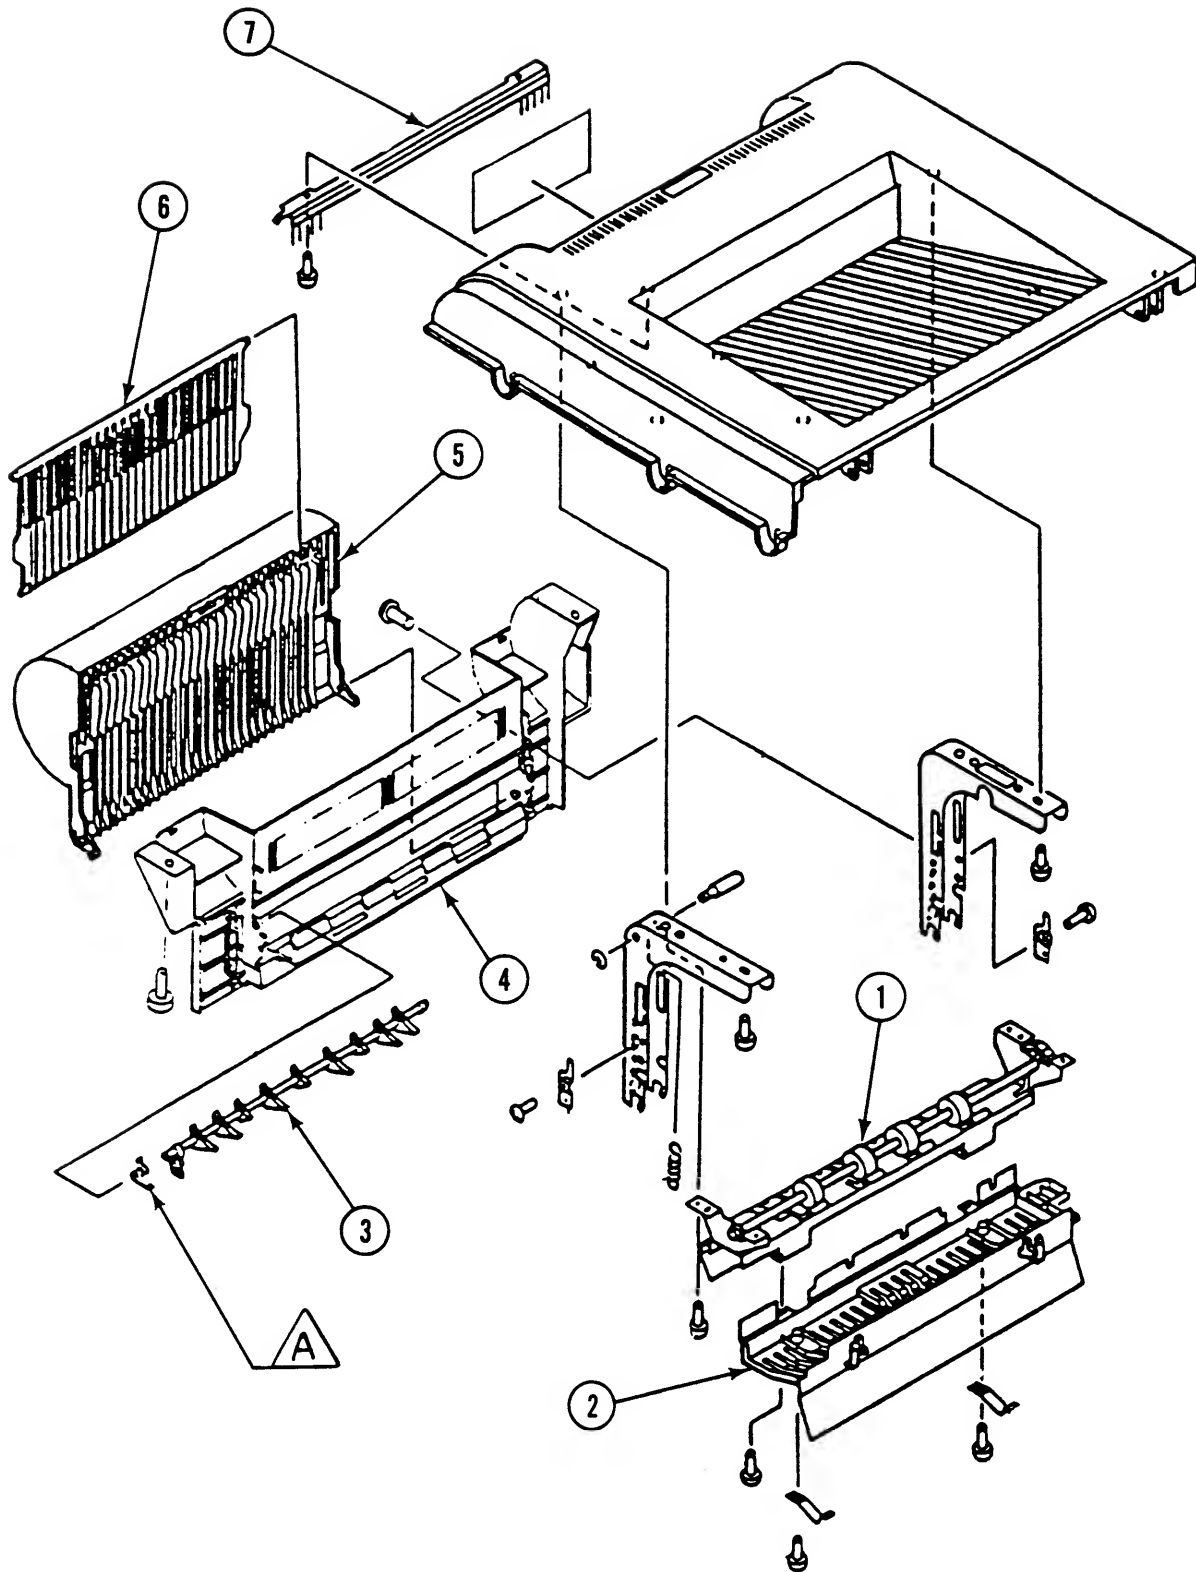

FIGURE 3
IPL.7	Upper Main Body (Figure 3)
□ UPPER MAIN BODY (Figure 3)